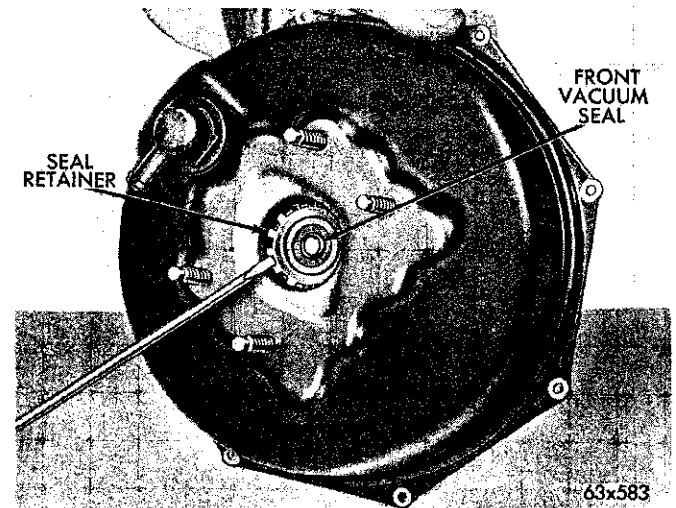

Fig. 24—Removing Front Seal and Retainer
(14) Using a thin screw driver, pry out the front seal retainer and remove the front seal (Fig. 24).
(15) Thoroughly clean all parts with mineral spirits or alcohol. Recondition or replace as necessary.